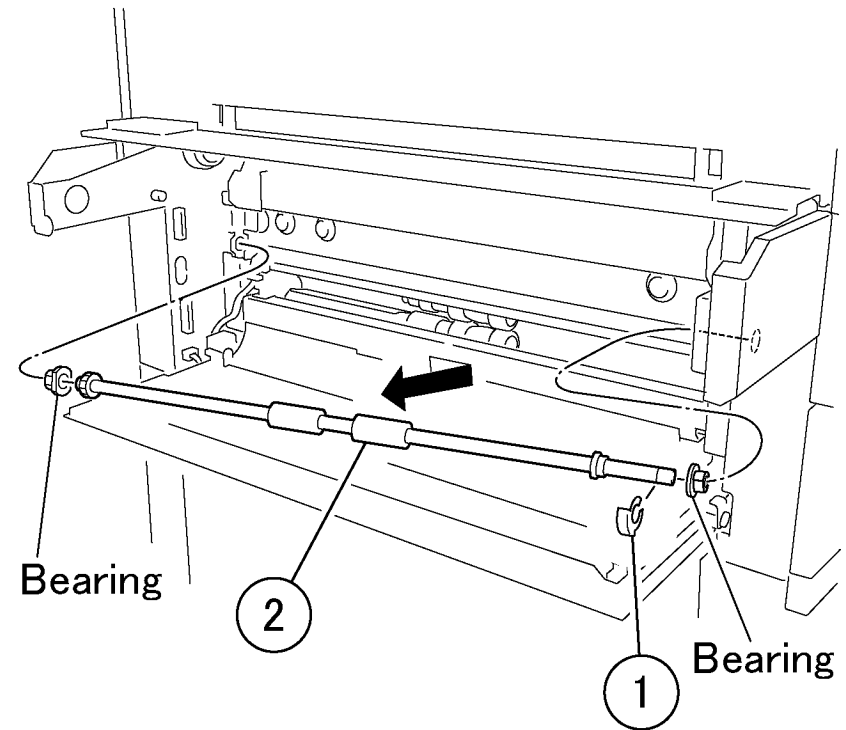

Figure 5 Removing the Takeaway Roll (j0tp40203)
8. Remove the Takeaway Roll. (Figure 5)